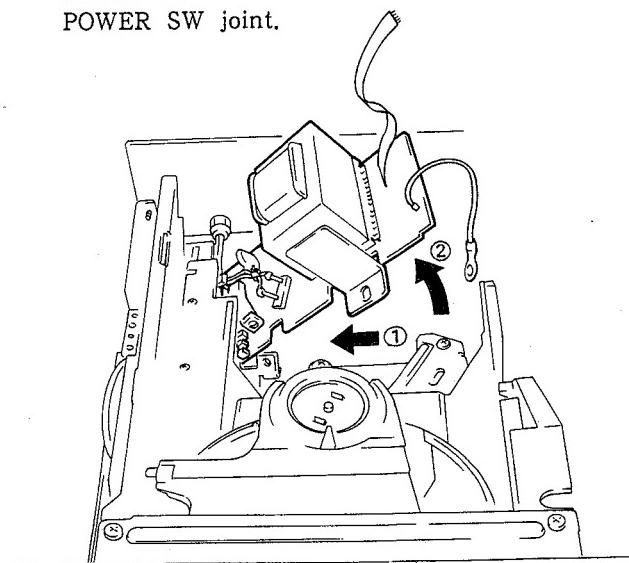

Fig. 2-3
- Slide the transformer board assembly in the ① direction as shown in Fig. 2-3, and stand up the transformer board assembly in the ② direction while making sure that there is no contact with the servo mechanism assembly and POWER SW joint.